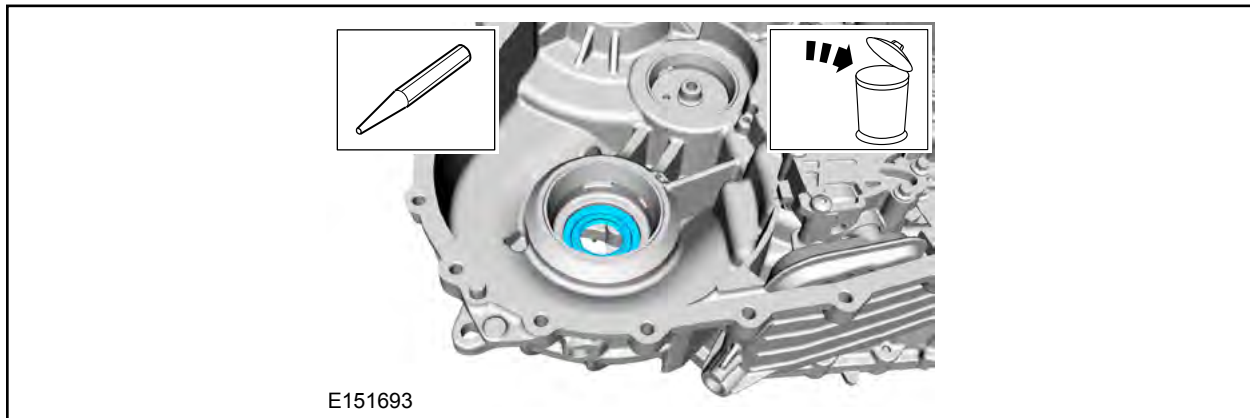

FIGURE 5
2. Remove and discard the LH halfshaft seal. See Figure 5.